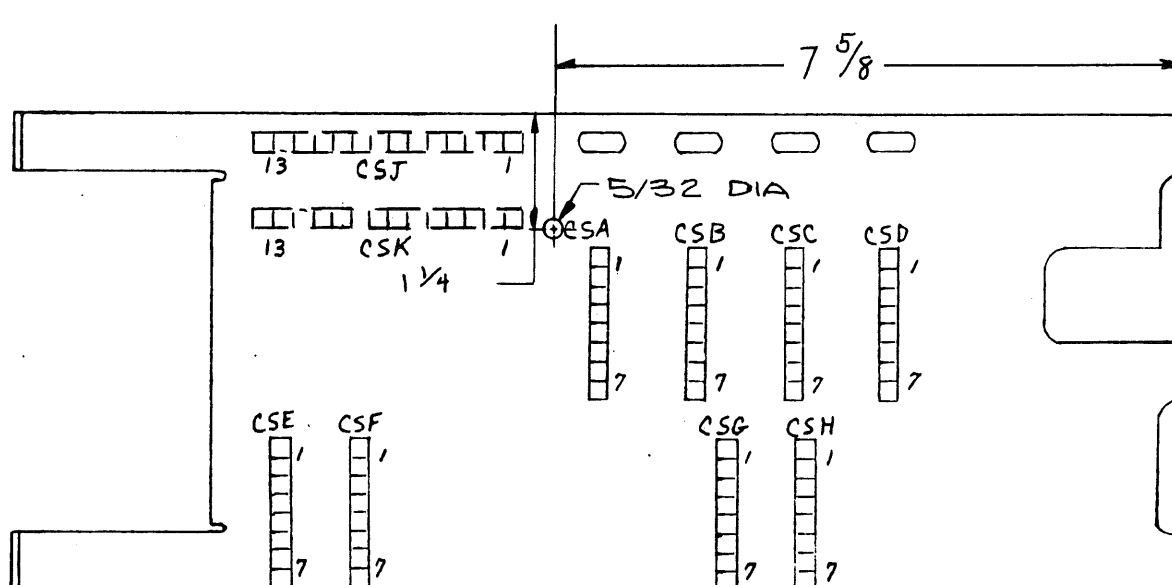

FIG. 1
- e) Drill a 5/32 in. hole near V64, as shown on ceramic strip layout drawing (Fig.1).